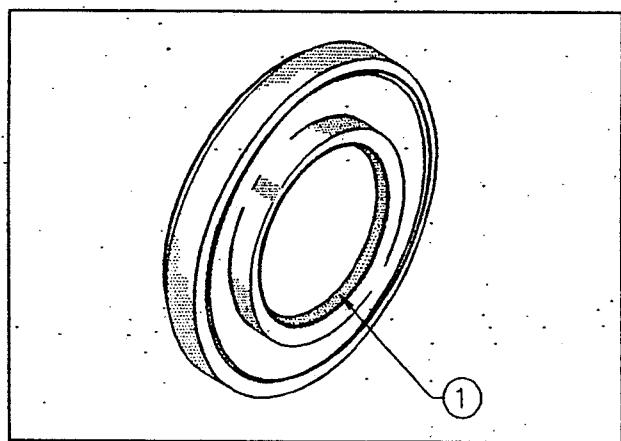

Fig 3.55
Damage to the lip (1) of the oil seal (fig 3.55) may result in leakage of the mixture or oil. Inspect for damage and be sure to replace the damaged oil seals.